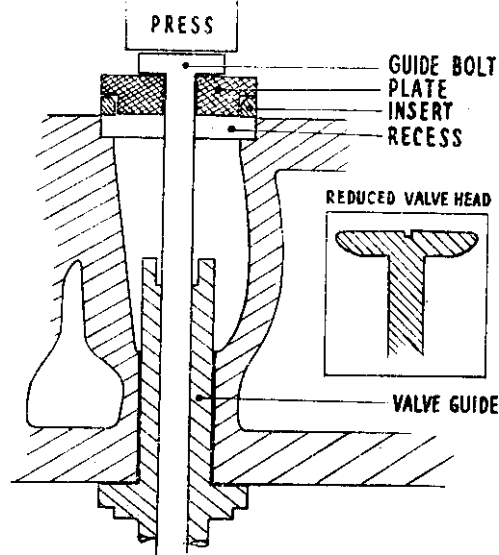

Fig. 15
N.B. If these cutters are employed it will be necessary to remove the valve guides and to use the hole in the head as the pilot. In consequence the dimensions of the guide bolt, Fig. 15, will have to be suitably modified.